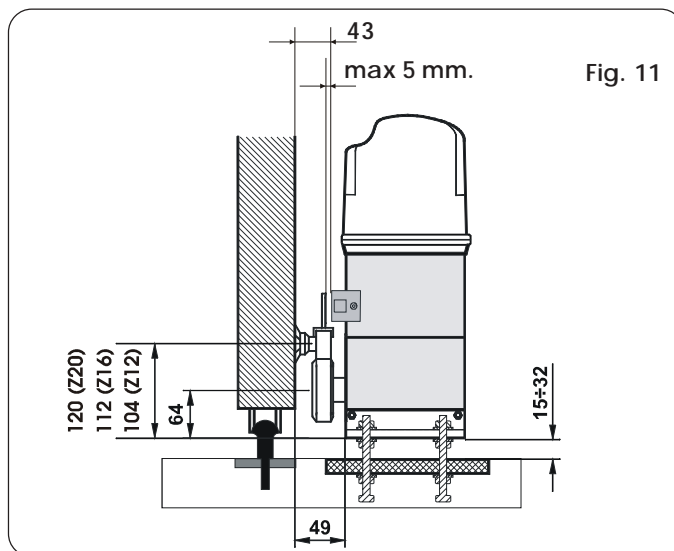

Fig. 11
- 4) Adjust the height of the feet and the distance from the gate - refer to Fig. 11.